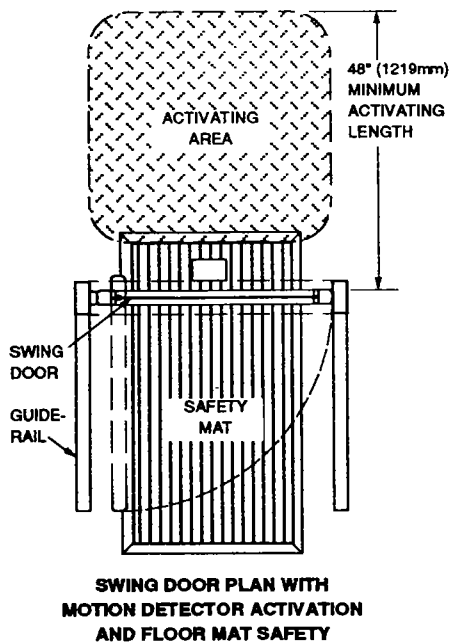

Figure 3
9. If the door has motion detector activation and floor mat safety, one of the following three requirements must be met (See Figure 3).